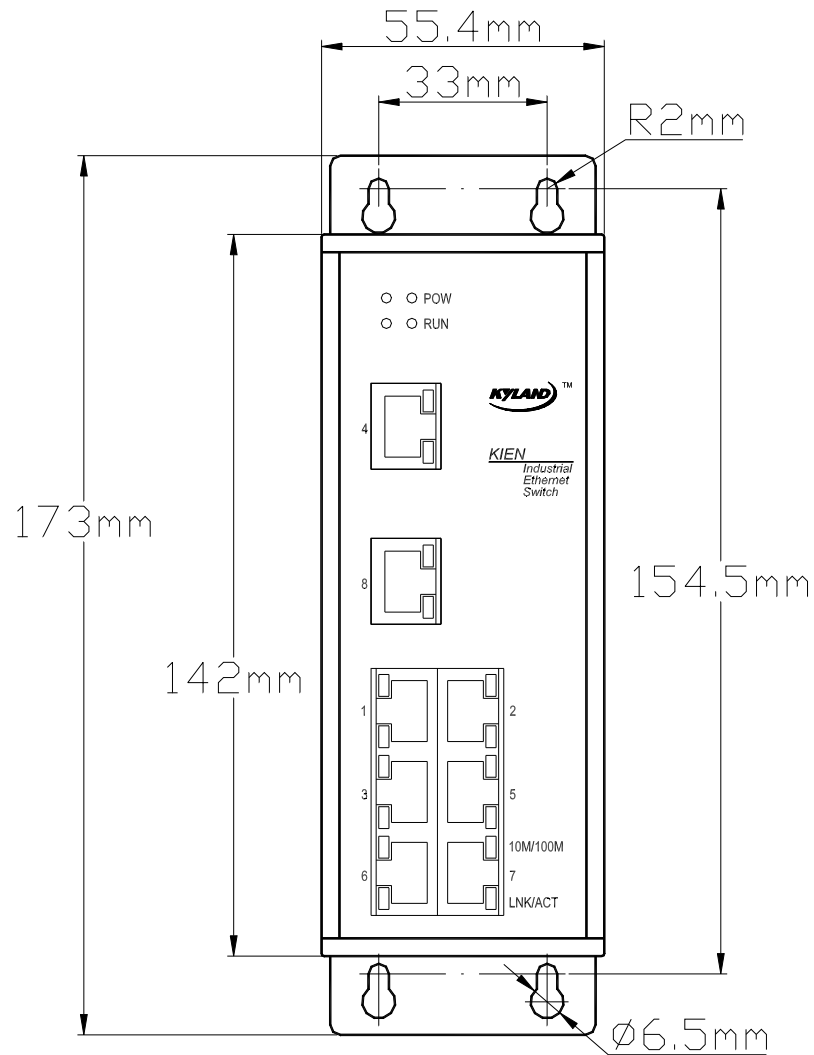

Figure 4-3 KIEN1000-PSE Wall-Mounting Dimensions
In case that DIN rail-type mounting is inconvenient, it is better to adopt wall mounting. KYLAND Telecom provides users with wall mounting boards that are mounting parts for mounting of KIENT1000-PSE industrial Ethernet switches. The size of wall mounting is showed in the Figure 4-3.
- 3 . Select a vertical wall or internal wall of the switch cabinet as the mounting position. If the vertical wall is selected, recommend to mount the switch with  $\Phi 6$  plastic expansion bolts and  $\Phi 3$  tapping screws. In accordance with the mounting size in the Figure 4-3, drill 4  $\Phi 6$  holes on the wall with a impact electric drill
with a depth that can completely contains the  $\Phi 6$  plastic expansion bolts. Insert the plastic expansion bolts into holes on the wall and screw the tapping screws into the plastic expansion bolts with a cross head screwdriver. But do not screw them tightly and keep a space of about 5mm. If the internal wall of the switch cabinet is selected, recommend to open 4 M3 screw holes when the switch cabinet is manufactured in accordance with the mounting size in the Figure 4-3. Or drill  $4\Phi 4$  holes with a electric portable drill on site. Screw four M3 $\times$ 10 cross recessed pan head screws into 4 holes. If the holes have no threads, mount four M3 nuts on its back. At last, do not completely screw down screws and keep a space of 5mm.